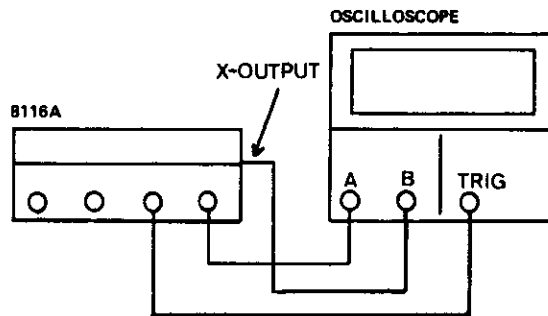

Figure 4-15. Test setup for SWEEP
1. Connect equipment as shown in Figure 4-15.